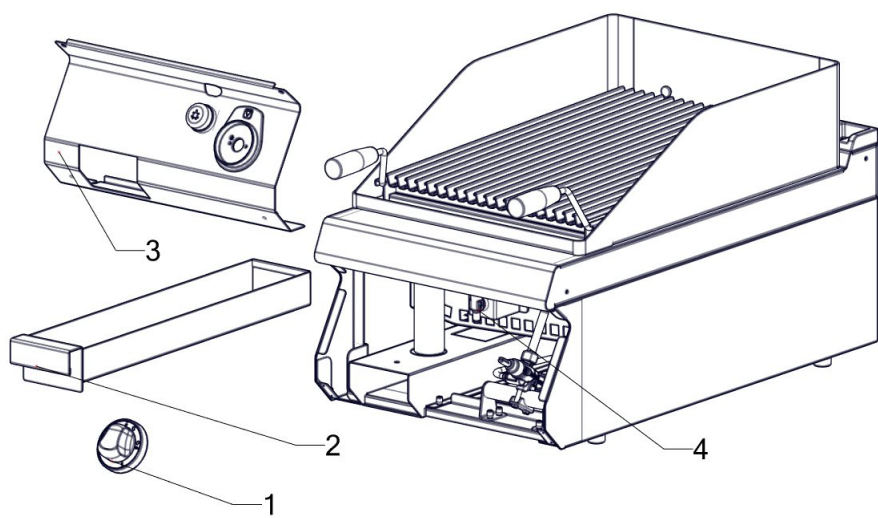

fig. 2
- 4) unscrew the nut (fig. 2, note 5)
- 5) Pull the air intake (fig. 2, note 6)
- 6) According to picture (fig. 2) unscrew the nozzle from the main burner and replace with nozzles according to table „TECHNICAL DATA“